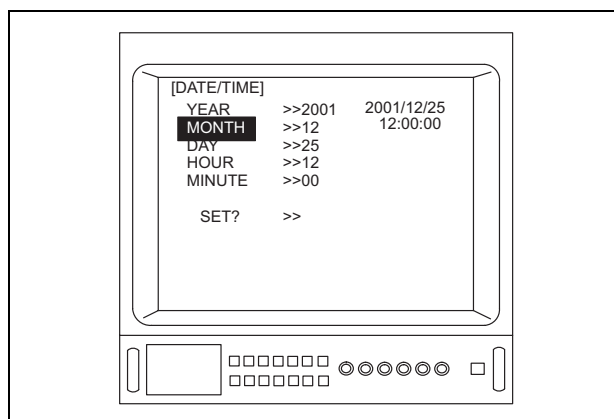

Figure 5.10
5. Depress the menu switch “◀” or the “Enter” key on the keyboard to adjust the month (see Figure 5.10).